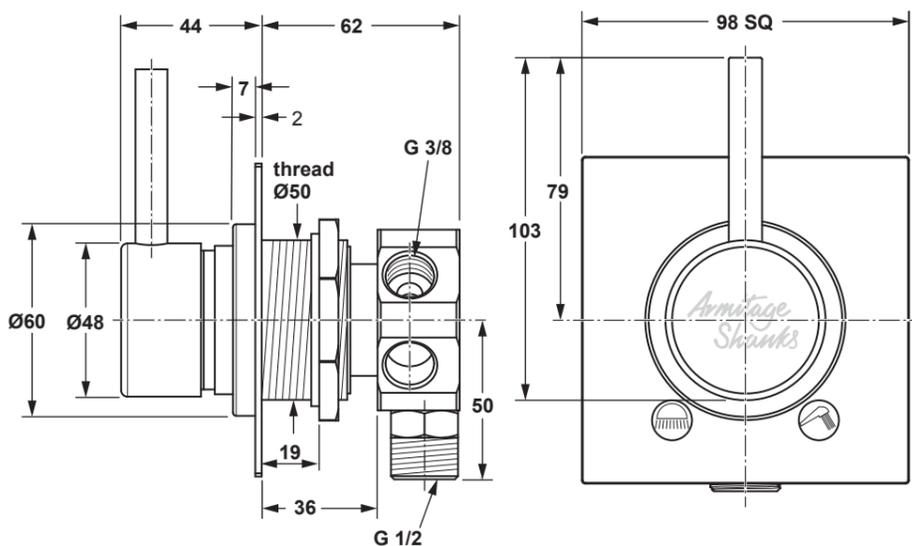

Figure 1
- 3.3 The square escutcheon can then be slid onto the diverter body from the front of the panel. Ensure the escutcheon is orientated correctly with symbols as shown in Fig.1.